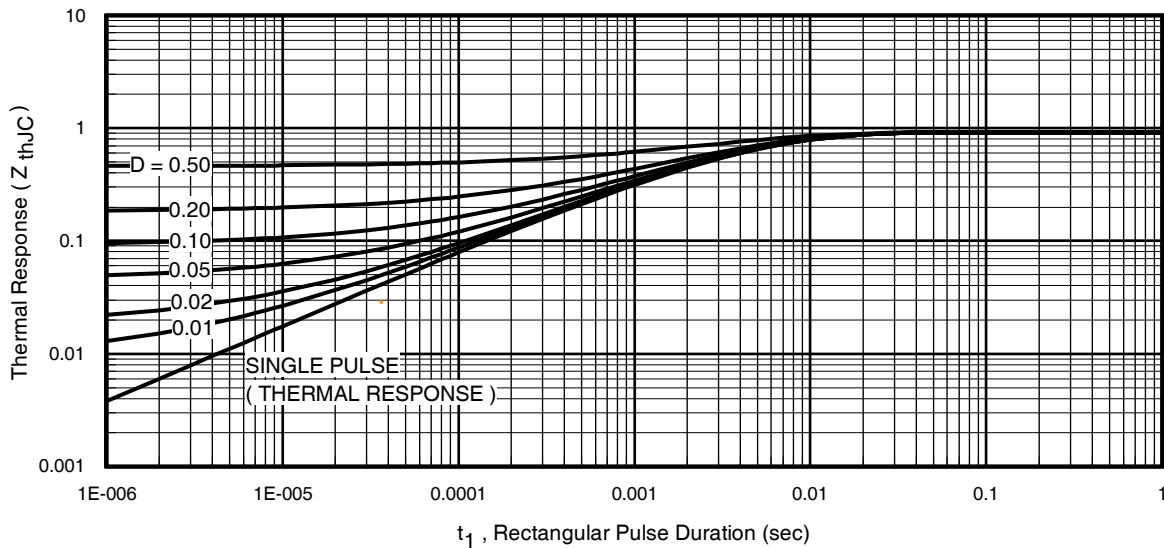
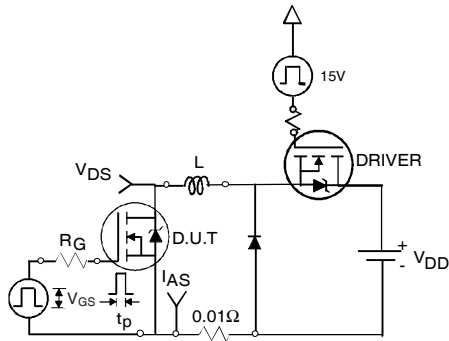

Fig 11. Maximum Effective Transient Thermal Impedance, Junction-to-Case
Fig 12a. Unclamped Inductive Test Circuit
- ① Repetitive rating; pulse width limited by max. junction temperature. (See fig. 11).
- ② Limited by T_{Jmax} , starting $T_J = 25^\circ\text{C}$, $L = 0.27\text{mH}$, $R_G = 25\Omega$, $I_{AS} = 35A$, $V_{GS} = 10V$. Part not recommended for use above this value.
- ③ $I_{SD} \leq 35A$, $di/dt \leq 380A/\mu s$, $V_{DD} \leq V_{(BR)DSS}$, $T_J \leq 175^\circ\text{C}$.
- ④ Pulse width $\leq 1.0\text{ms}$; duty cycle $\leq 2\%$.
- ⑤ $C_{oss \text{ eff.}}$ is a fixed capacitance that gives the same charging time as C_{oss} while V_{DS} is rising from 0 to 80% V_{DSS} .
- ⑥ Limited by T_{Jmax} , see Fig. 12a, 12b, 15, 16 for typical repetitive avalanche performance.
- ⑦ This value determined from sample failure population. 100% tested to this value in production.
- ⑧ This is applied to D²Pak, when mounted on 1" square PCB (FR-4 or G-10 Material). For recommended footprint and soldering techniques refer to application note #AN-994.
3. Equation below based on circuit and waveforms shown in Figures 12a, 12b.
$Z_{thJC}(D, t_{av})$ = Transient thermal resistance, see figure 11)